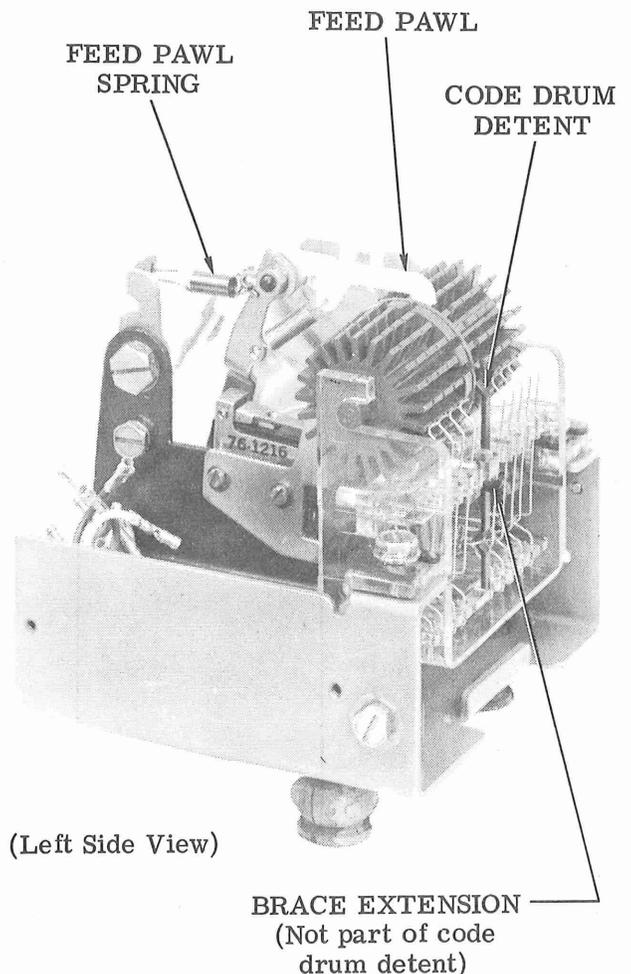

Figure 6 - Answer-Back Assembly
- (1) Deflect brace extension downward, lift feed pawl, and remove answer-back drum from plastic block (Figure 6).